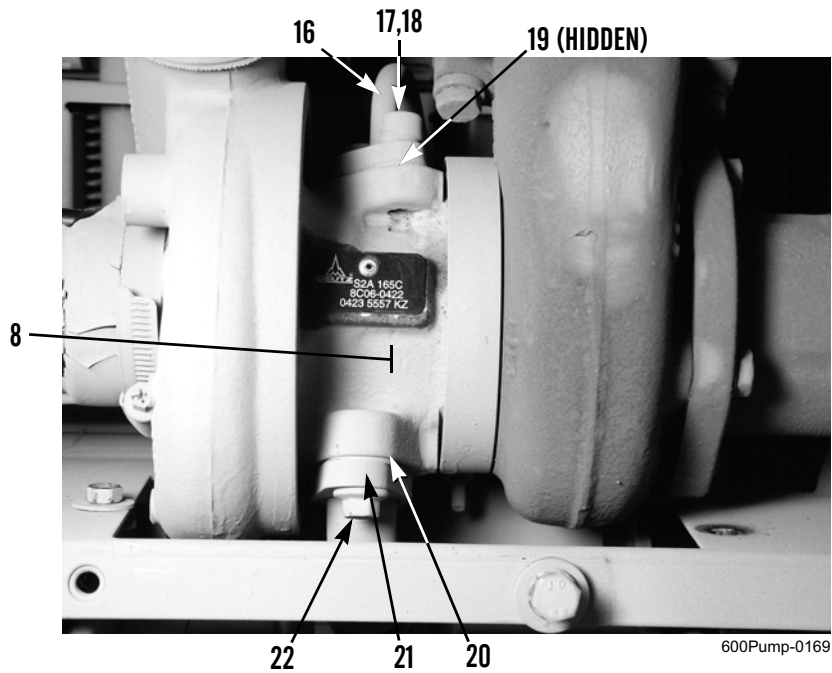

Figure 3. Turbocharger Oil Lines.
5. Remove two bolts (Figure 3, Item 17), lockwashers (Figure 3, Item 18), lube oil line (Figure 3, Item 16), and gasket (Figure 3, Item 19) from turbocharger (Figure 3, Item 8). Discard gasket and lockwashers.
6. Remove two bolts (Figure 3, Item 22), oil return line (Figure 3, Item 21), and gasket (Figure 3, Item 20) from turbocharger (Figure 3, Item 8). Discard gasket.